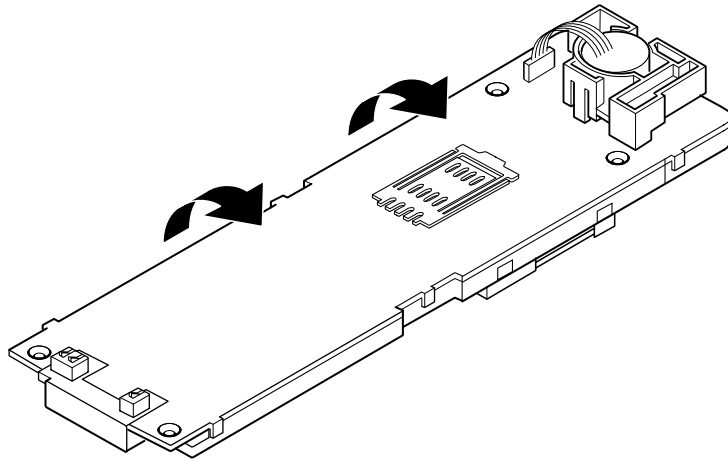

Figure 4: Rear Board removal
4. Figure 4 Remove the Rear Board from the Chassis